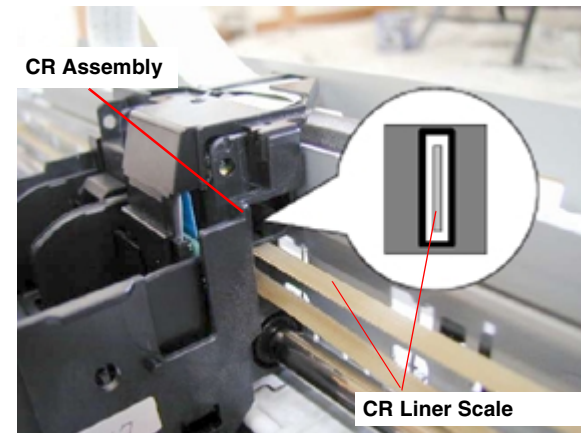

Figure 4-47. Checking the CR Encoder Slit Plate condition
- After setting the CR Liner scale into the slot in the CR Unit, ensure that the CR Liner scale is not in contact with either side of the slot in the CR unit. Refer to Figure 4-47.